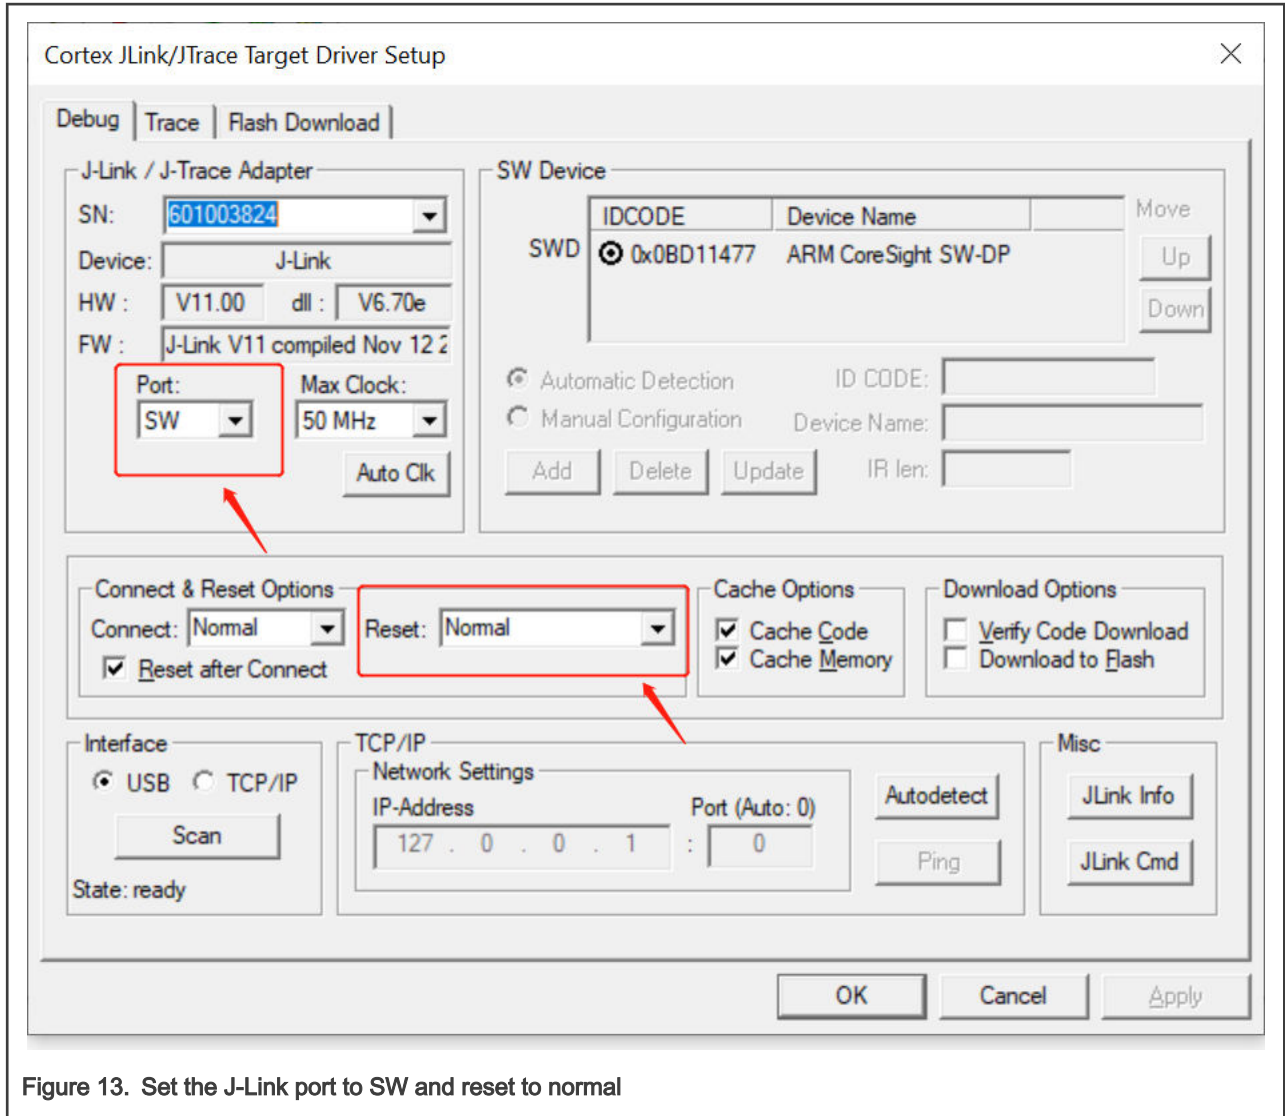

Figure 13. Set the J-Link port to SW and reset to normal
4. Click the **Settings** button. On the J-Link setup menu, set the port to **SW** and the reset method to **Normal**, as shown in Figure 13.